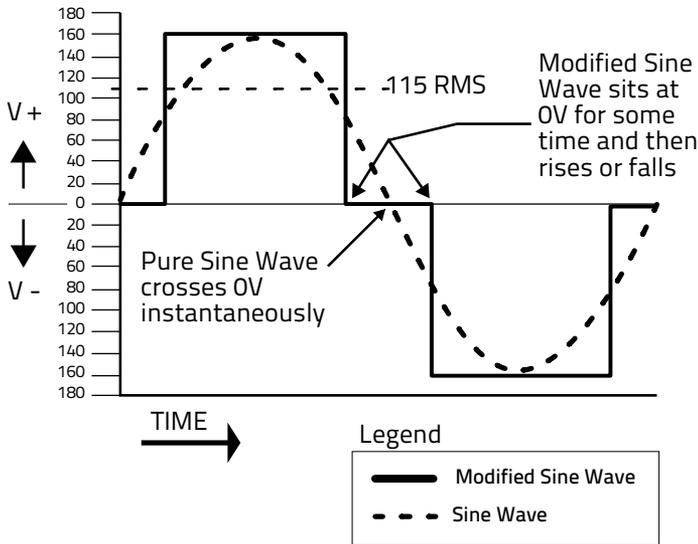

Fig 2.1 Modified Sine Wave and Pure Sine Wave - Comparison
Conversion of 12 VDC from the battery / other DC source to 115 VAC takes place in 2 stages. In the first stage, the 12 VDC is converted to high voltage DC (around 160 VDC) using high frequency switching and Pulse Width Modulation (PWM) technique. In the 2nd stage, the 160V high voltage DC is converted to 115V, 60 Hz Modified Sine Wave AC. (NOTE: 115V is the RMS value of the Modified Sine Wave AC voltage. The peak value of the Modified Sine Wave AC voltage will be equal to the value of the above high voltage of around 160V. See the Fig 2.1 below).
Please refer to Fig 2.1 below which shows one cycle of Modified Sine Wave and Pure Sine Wave for comparison.
- If the battery was discharged to a level that draws higher current > the Bulk charge Current of 15A, the charger will limit the charging current to 15A, its voltage will drop and will be clamped at the actual battery voltage when charging was started (Points 1 to 2, Fig 2.1). Charging will take place at constant current limit of 15A, the battery voltage will start rising and the current demand will start reducing. When the current reduces to less than 15A, the charger will exit current limit / Bulk Charge Stage (Point 2, Fig 2.1) and will output a fixed Float Voltage of 13.8V thereafter (Points 2 to 3 on the Voltage Curve in Fig 2.2). Battery's intrinsic voltage will continue to rise towards 13.8V and charging current will start to taper off (Points 2 to 3 on the Current Curve in Fig 2.2). When the battery voltage has reached almost 13.8V, it would have charged to around 80% capacity and the current draw will be reduced to few hundred milliamps (around 0.1% of battery Ah capacity) to compensate self discharge (Point 3 on the Current Curve in Fig 2.2).